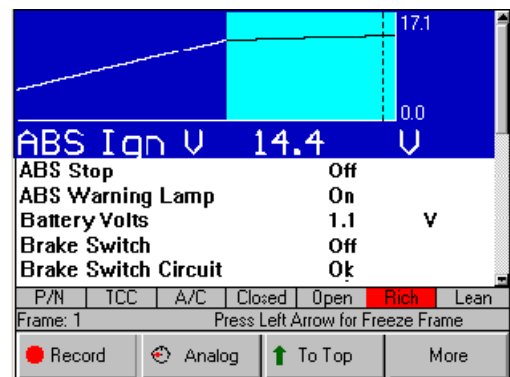

Figure 4.16: Datastream Screen - Zoom Function
- 4 Press the **ENTER** key. This magnifies the selected line, as shown in Figure 4.16.